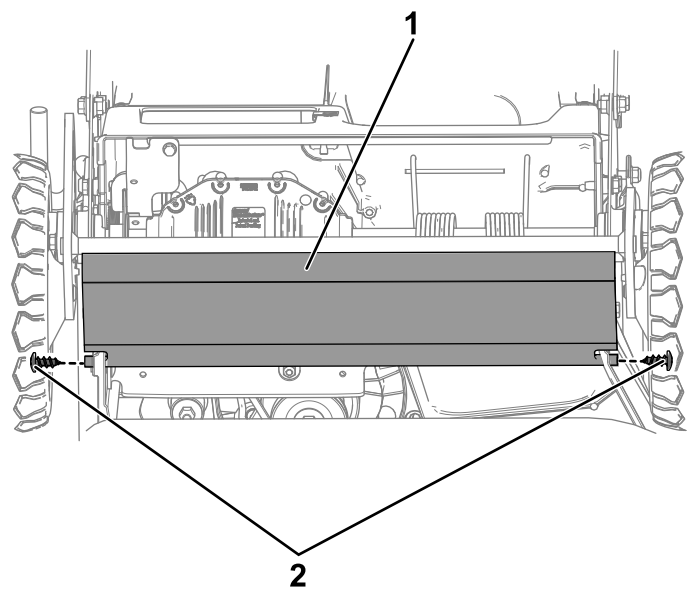

Figure 47
9. Remove the dust shield by removing the 2 bolts holding it in place (Figure 47).